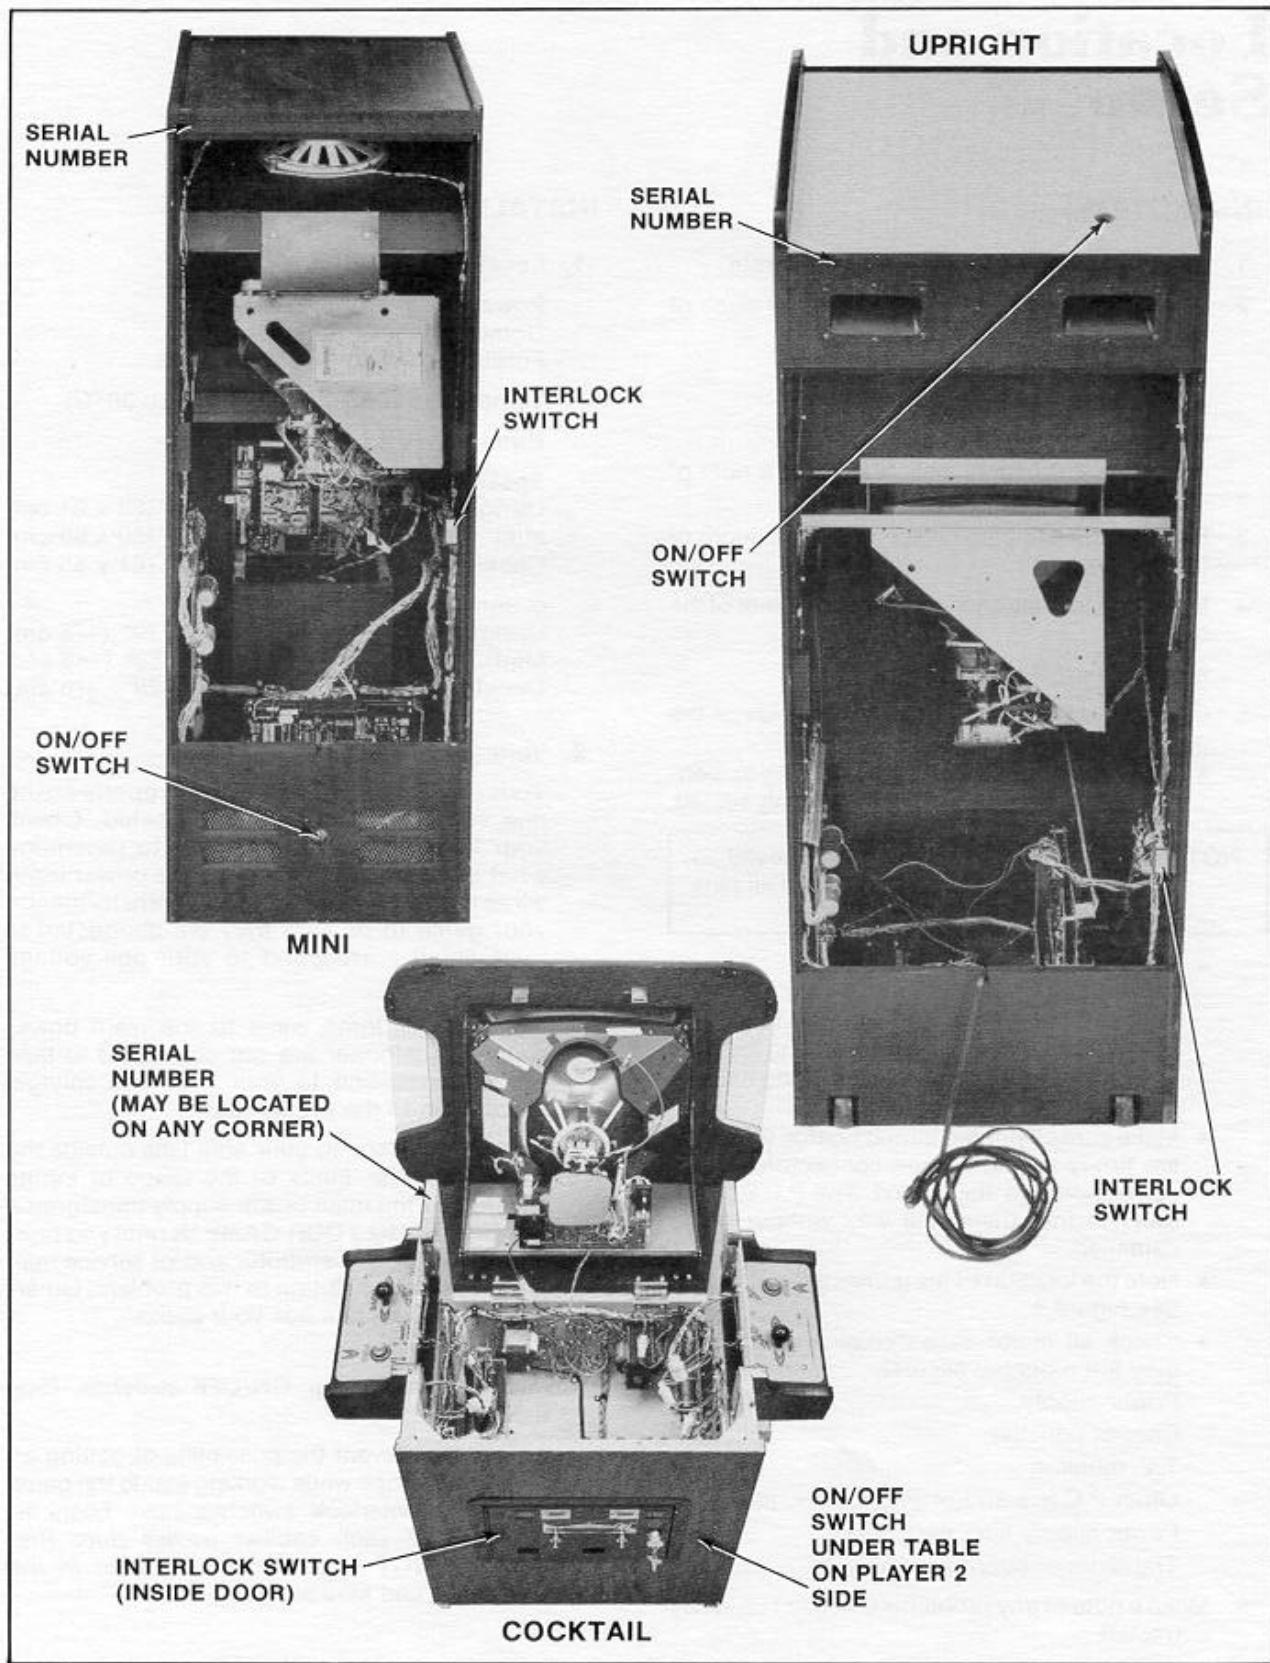

Figure 1. Location of serial number, interlock switch and ON/OFF switch.
- Note the location of the game's serial number. See Figure 1.
3. Interlock and power ON/OFF switches. (See Figure 1.)
The game ON/OFF switches for all models are located as shown in Figure 1. Turn the game on and allow it to warm up a few minutes.